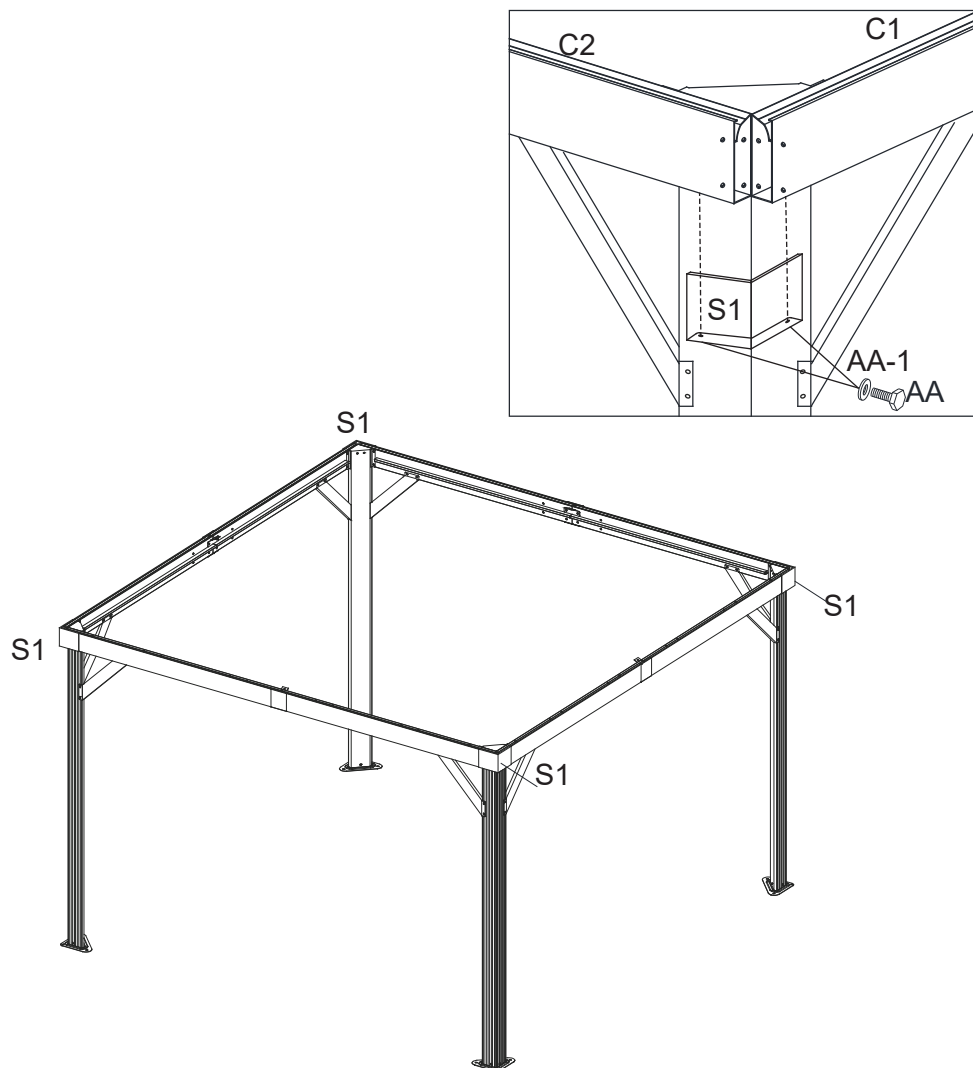

Figure 5
5. Attach Corner Lintel Cover (S1) to Lintels (C1 and C2) with Bolts(AA)and Steel washer(AA-1). See Figure 5.